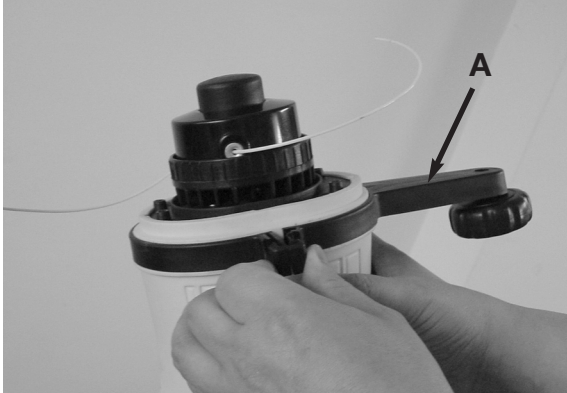

Fig. 1
1. Position the edge guide wheel (A) to the front of the motor housing as shown in Fig. 1.